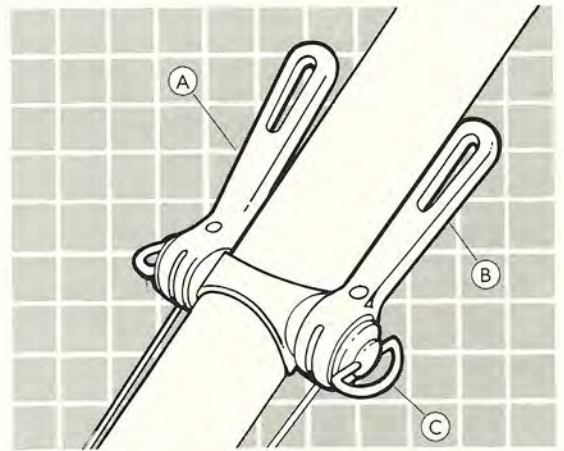

Figure 4. Shift levers
The word *derailleur* refers to the derailing or shifting of the chain from one sprocket to another. The derailleur system includes the front and rear derailleurs, the shift levers, and the cables (Figures 4 through 7). A variety of gear ratios allows you to maintain a constant rate of pedal revolutions in spite of changes in terrain, weather, and your physical condition.
The gear shift levers, Figure 4, are operated by fingertip control. The left-hand lever controls the front derailleur mechanism, and the right-hand lever controls the rear. Shift only one lever at a time. Choose the gear combination most comfortable for the road conditions, and you should be able to maintain a constant rate of pedalling. It is not essential that various gear combinations be used in sequence.
**Shift Levers.** If a shift lever is too tight to move easily or is so loose that it moves back to the forward position after a shift, then the friction screw needs to be adjusted. See Figure 4.